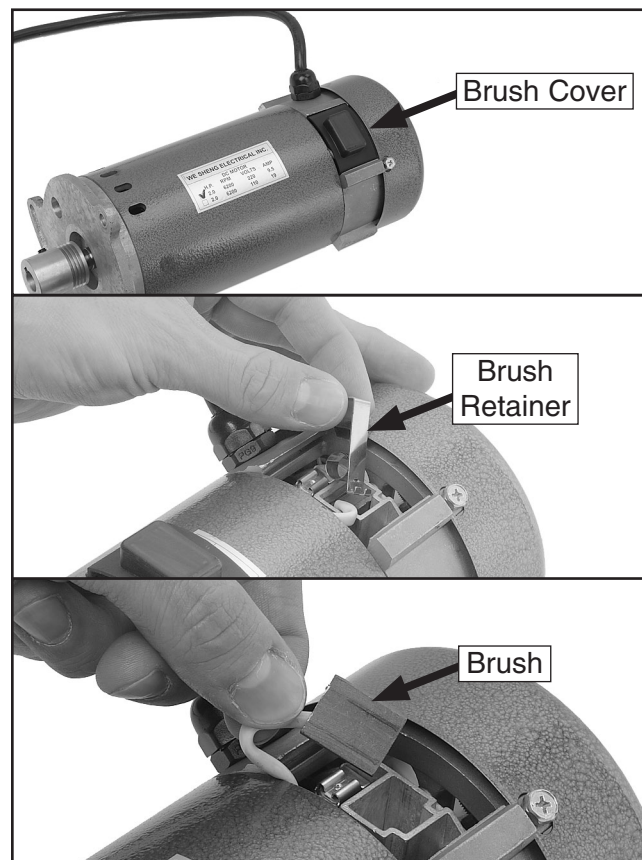

Figure 50. Replacing motor brushes.
10. Pry off the brush covers on the motor (see **Figure 50**), remove the brush retainer clips by simply pushing them down and releasing, and replace the brushes.